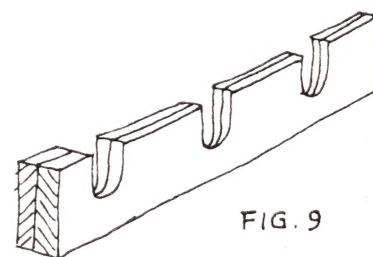

FIG. 9
Step 14 - centre pop the axle locations and drill progressively to $\frac{1}{8}$ " size holes. Clamping or soldering the two pieces of brass together so that both frames are drilled at once. Slot the holes to the nearest side, and check that a piece of $\frac{1}{8}$ " rod can enter and rotate freely. If necessary, ease with a small round file. See Figure 9.